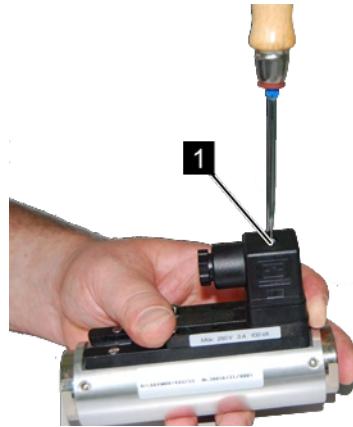

Fig. 20: Detach socket
1. Release the fixing screw (Fig. 20/1) from the socket
9. → Plug the female socket onto the connector plug and tighten the fixing screw (Fig. 20/1)